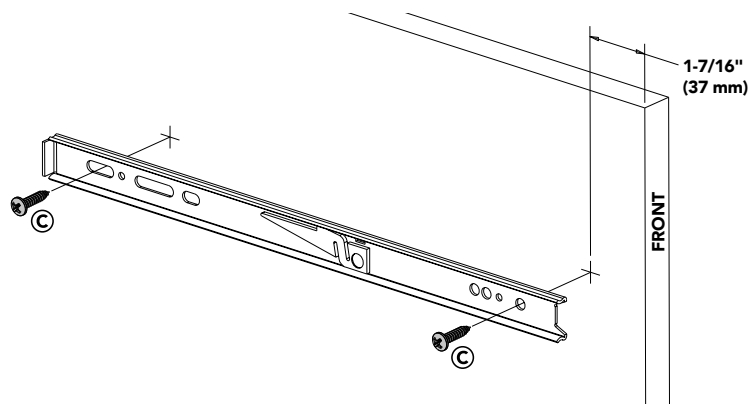

Fig. 3
Re-attach Unit (A) to slide (See Fig. 3).